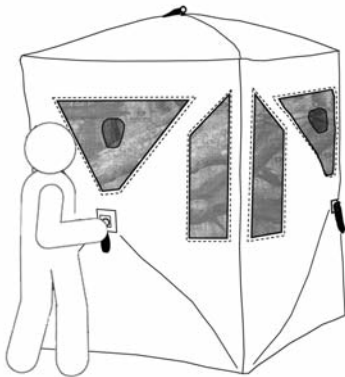
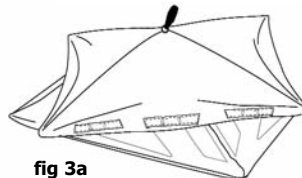

fig 3
fig 3a
**Step 3:** Repeat on remaining walls (fig 3). Once all **WALL HUBS** have been pushed in, the blind will collapse onto ground. Twist roof so that blind corners are as shown (fig 3a).